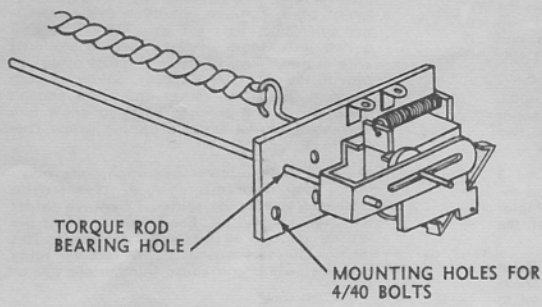

Figure 1
2. As a Self-Neutralizing Escapement: (See Figure 1). The Motor-Minder can also be used as a single basic rudder or elevator control. For this purpose, a loop of $\frac{1}{4}$ " rubber is recommended. Length should be approximately 10% longer than the distance from the shaft to the winding hook at the rear of the fuse-logs. Minimum friction in the torque rod is desirable so as not to waste power. Using the escapement in this manner, one pulse and hold will take it to the next position. When released, the control will return to neutral.